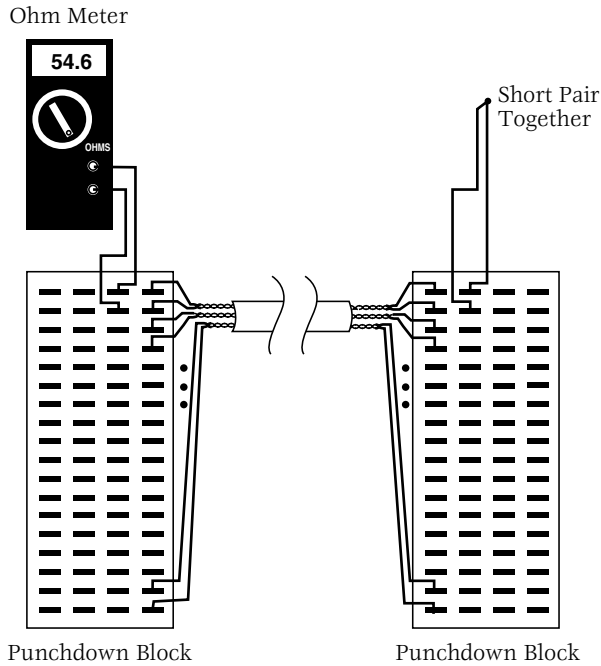

Figure 3-8. Using an ohmmeter to measure the length of phone wire.
1. Use a cable scanner or an ohmmeter to measure the lengths of phone wire that will connect the Extenders. When using an ohmmeter, short-circuit one end of the phone wire and measure the resistance between the two wires at the other end (see **Figure 3-8**).